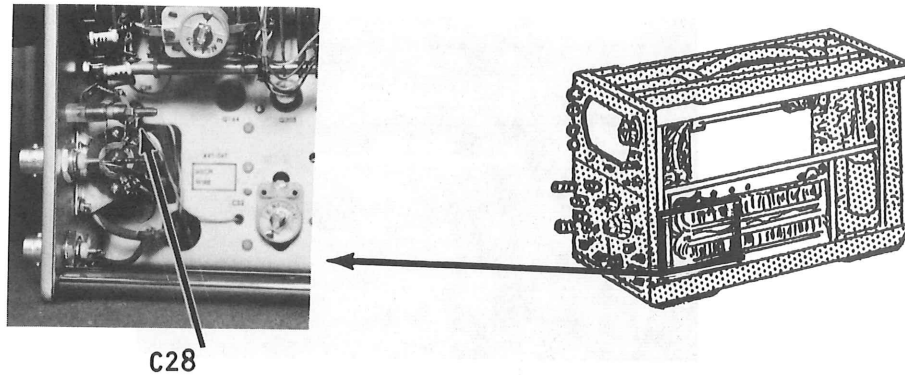

Figure 31
8. Adjust C28 (see Figure 31) for best square corner.